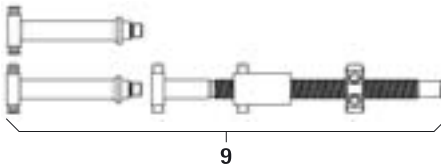

Fig. 9
- Mount spindle distractor 9, see Fig. 9.